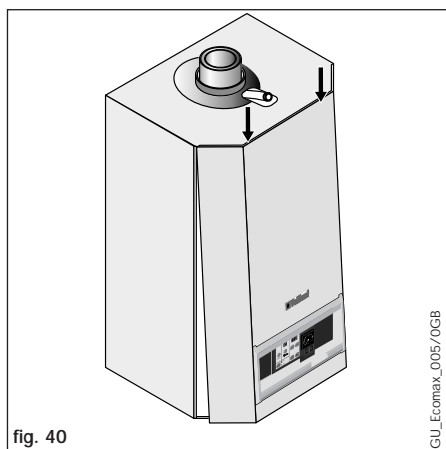

fig. 40
- Hook the top of the front casing over the lip on the top of the boiler chasis and push the bottom of the front casing into place (fig. 40).